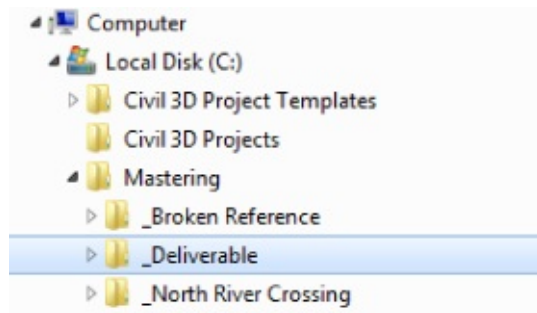

Figure 16.21 Simulating a new project phase by copying the example project to a new folder
2. Copy this folder and its contents to `C:\Mastering`, as shown in Figure 16.21.